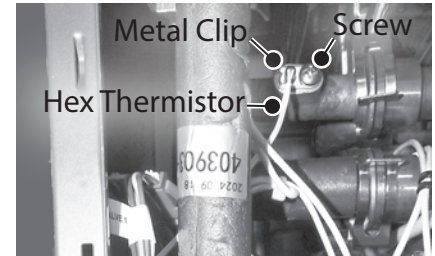

Figure 75 - Outlet thermistor location
21 Locate the heat exchanger outlet thermistor as shown in Figure 75.
22 Locate the screw securing the heat exchanger outlet thermistor. See Figure 75. Use a Phillips screwdriver to remove the screw and the metal clip. Remove screw and place aside in a safe place for reinstallation. Discard metal clip.
- 26 Install the new heat exchanger outlet thermistor in the water heater. See Figure 75. Secure with the new metal clip and the screw removed in **Step 22**.